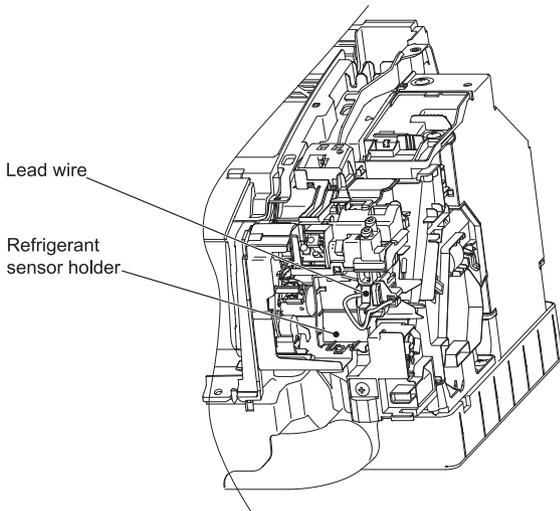

Fig. 1
- (1) Remove the lead wire fixed to the refrigerant sensor holder, then connect it to the refrigerant sensor board. (Fig.1)
- (1) Remove the panel.
- (2) Remove the insulation and take out the lead wire below the insulation. Dispose of the insulation. (Fig. 1)